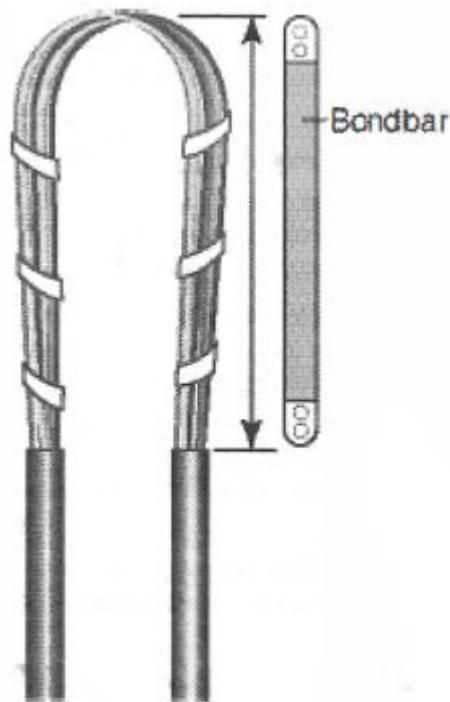

Figure 14
1. Remove cable sheath and shield from the cable. Use supplied bond bar as a guide to determine splice opening. See (Figure 14).